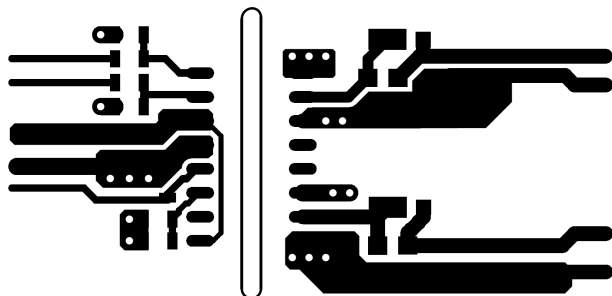
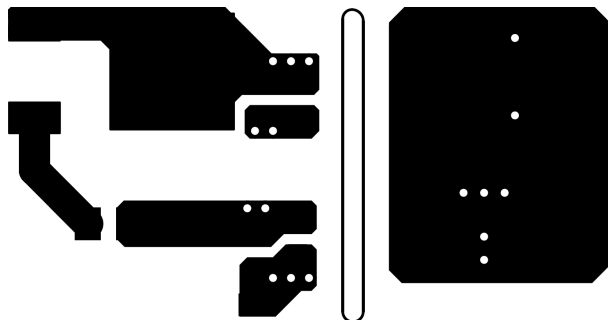

Figure 10-2. Top Layer Traces and Copper
Figure 10-3. Bottom Layer Traces and Copper (Flipped)
- Increasing the PCB copper connecting to VDDA, VDDB, VSSA and VSSB pins is recommended, with priority on maximizing the connection to VSSA and VSSB (see Figure 10-2 and Figure 10-3). However, high voltage PCB considerations mentioned above must be maintained.
Figure 10-2 and Figure 10-3 shows top and bottom layer traces and copper.